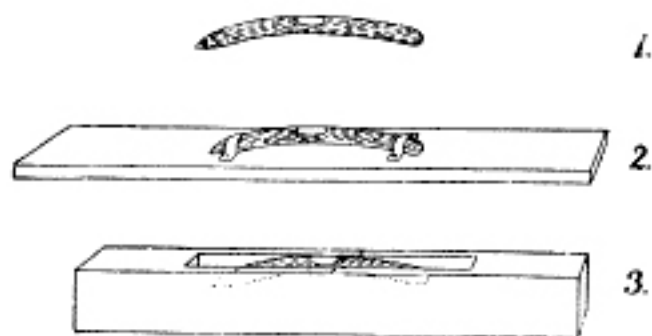

FIG. 66
Heat the small part of 4, without heating the alcohol, and close the tube (6). Now attach the level to a smooth board as 2 or 3, Fig. 66, mark the center of the bubble, and your spirit level is ready for use.